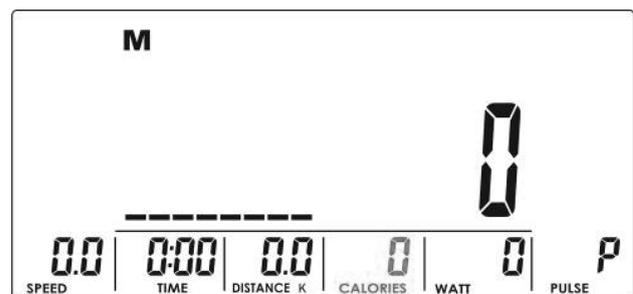

Figure 22
- (3) Hold the handles with both hands during the measuring. Once the console has detected the pulse, the LCD screen displays === for eight seconds (fig. 22) until the measuring is finished.